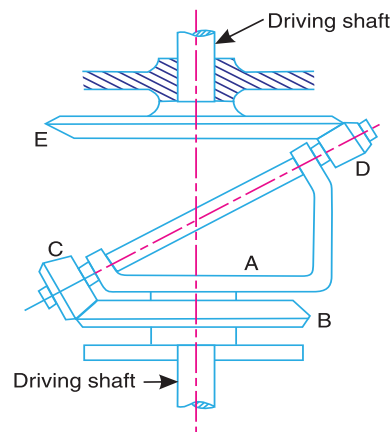

Fig. 13.44
15. An epicyclic bevel gear train, as shown in Fig. 13.44, has fixed gear B meshing with pinion C . The gear E on the driven shaft meshes with the pinion D . The pinions C and D are keyed to a shaft, which revolves in bearings on the arm A . The arm A is keyed to the driving shaft. The number of teeth are : $T_B = 75, T_C = 20, T_D = 18,$ and $T_E = 70$. Find the speed of the driven shaft, if 1. the driving shaft makes 1000 r.p.m., and 2. the gear B turns in the same sense as the driving shaft at 400 r.p.m., the driving shaft still making 1000 r.p.m.